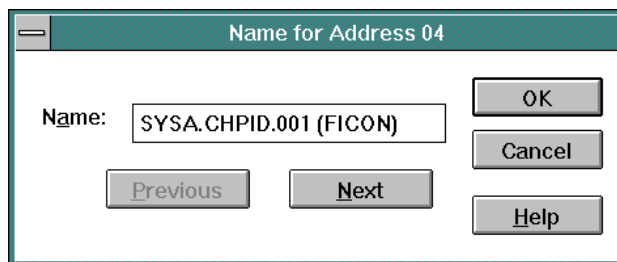

Figure 148. Name for Address Dialog Box
- The maximum number of FCV Port cards (16) supported by the Director is exceeded.
6. Move the mouse cursor to the *Name* column for port address **04**. Select the *Names* option from the *Edit* menu or double-click the mouse. The *Name for Address* dialog box appears (Figure 148).